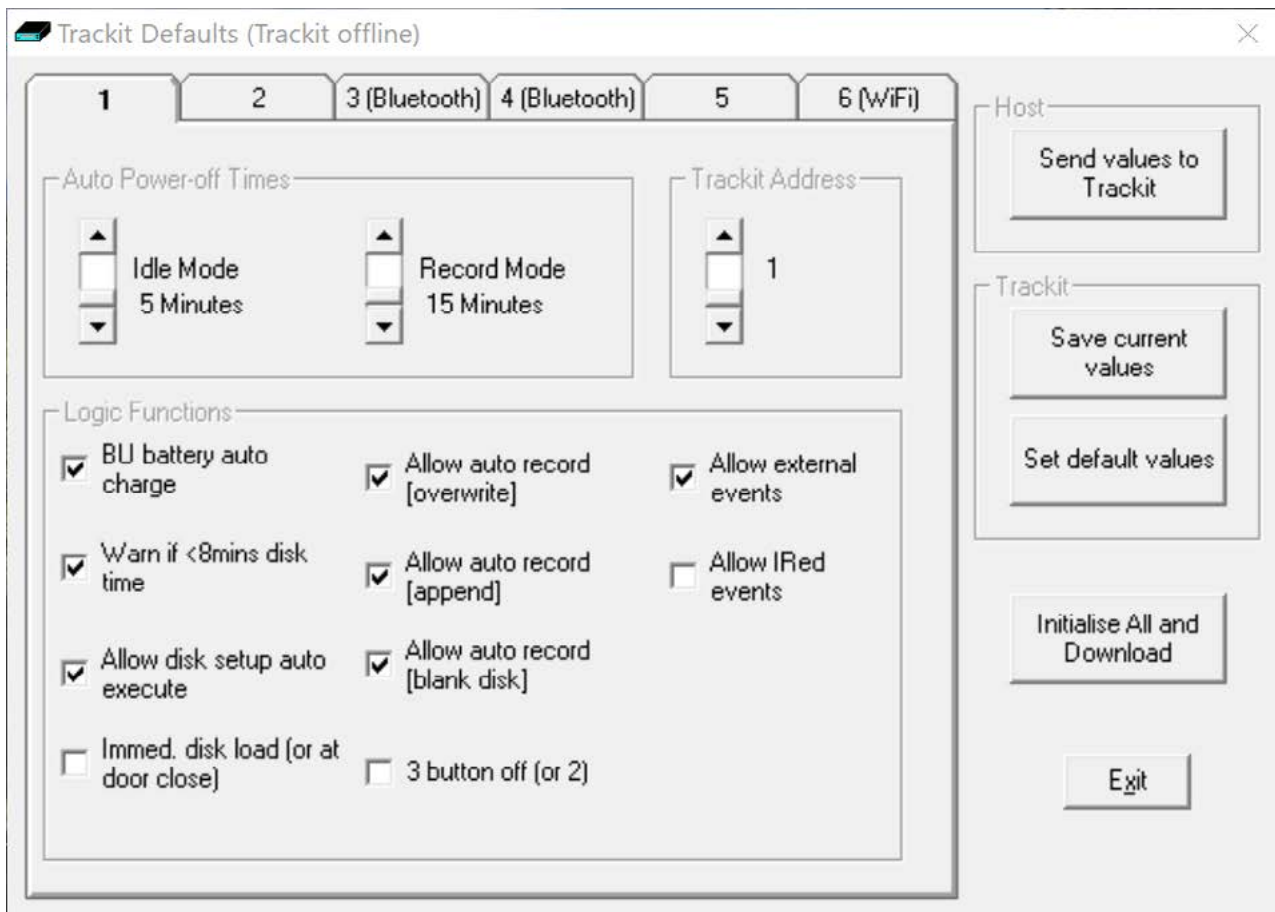

Figure 48: Defaults Tab 1
Tab 3 contains Bluetooth options and a Backup (BU) Battery charging option, as shown in Figure 48 below. Tab 4 provides additional Bluetooth setup options.